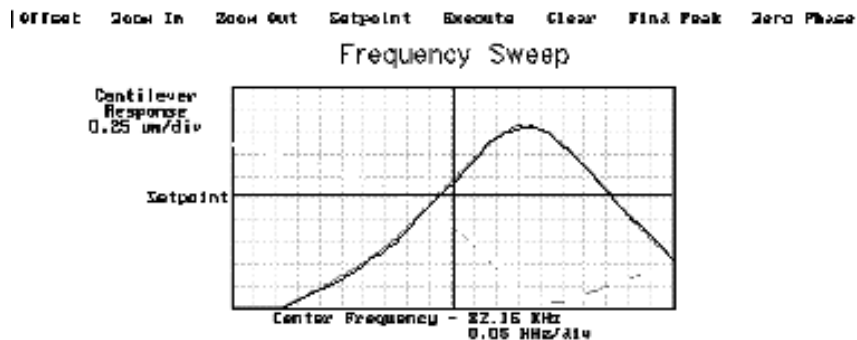

Figure 14.21. Amplitude detection *Cantilever Tune* (Extender Electronics Module *not* Installed).
A block diagram of the surface potential measurement system is shown in Figure 14.21. On the first pass, the sample topography is measured by standard TappingMode. In TappingMode the cantilever is physically vibrated near its resonant frequency by a small piezoelectric element. On the second pass, the piezo that normally vibrates the cantilever is turned off. Instead, to measure the surface potential, an oscillating voltage $V_{ac} \cos \omega t$ is applied directly to the cantilever tip. This creates an oscillating electrostatic force at the frequency ω on the cantilever. The oscillating force has the following amplitude:
5. Use **Cantilever Tune: AutoTune** (as described in Section 14.4.1) to locate the cantilever's resonant peak. Remember, however, that the Extender box has been reconfigured so that the phase detection circuitry now acts as a lock-in amplifier. Any procedures that are normally used to view or adjust the phase signal will now affect the lock-in signal instead (see Figure 14.21).